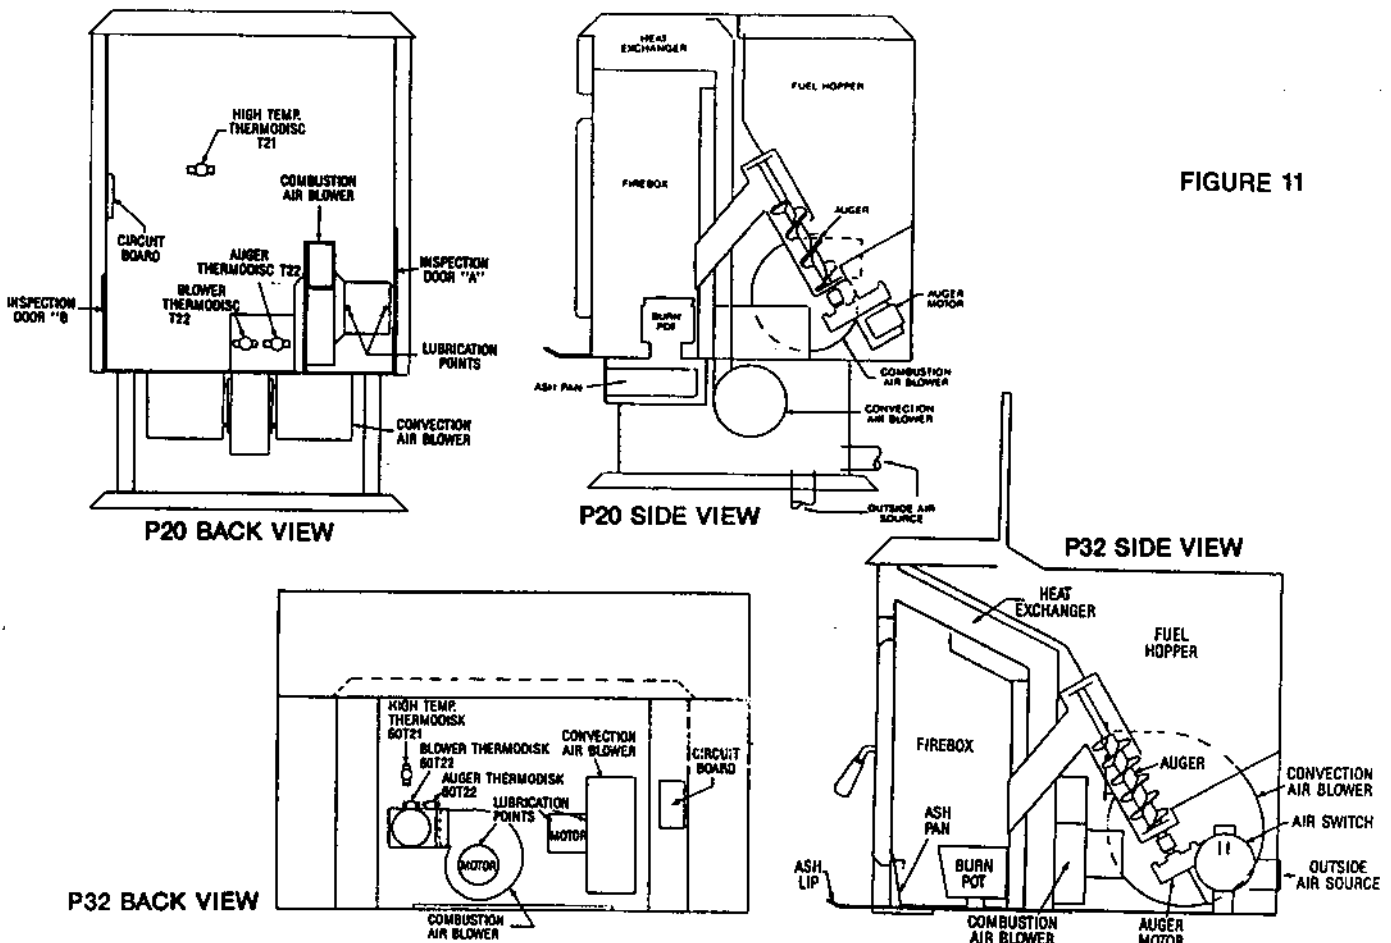

FIGURE 11
Both blowers should be removed once per year and brushed clean. The combustion blower (see Figure 11) is accessed through the service door on the lower left side. The convection blower is accessed from the pedestal rear. While out the combustion blower can be oiled (see Section 4.4b) **NOTE: Be careful when cleaning to not dislodge balancing clip or bend fan blades.**
**b. Oiling** — Blower manufacturers suggest oiling annually. See figure 11 for lubrication points. Use SAE 20W oil. Limit to one or two drops. **NOTE: P20 convection blower should not be oiled.**
When your stove acts out of the ordinary, the first reaction is to call for help. This guide may save time and money by enabling you to solve simple problems yourself. Problems can be due to only four factors: 1) poor fuel; 2) poor operation or maintenance; 3) poor installation; 4) factory defect. You can usually solve those related to 1 and 2. Your dealer can solve those in 3 and 4. Refer to figure 11 to help locate indicated parts. **REMINDER: Pull plug before servicing, unless otherwise instructed.**